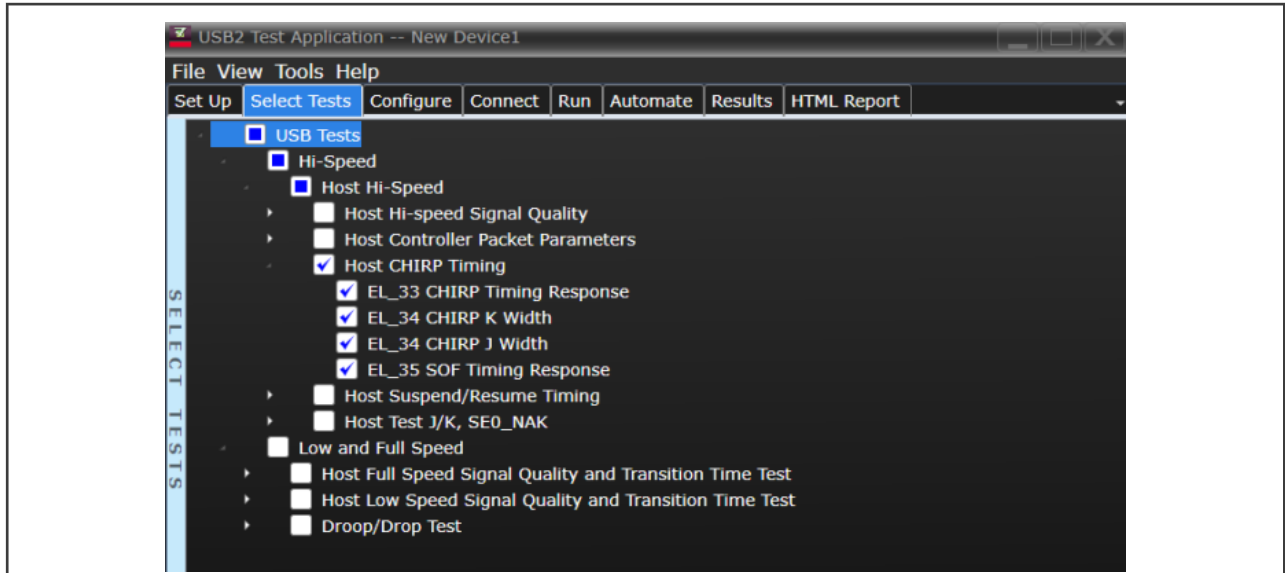

Figure 46. Host CHIRP Timing test
1. Select the test items in the USB automated test software on the oscilloscope, as shown in Figure 46.